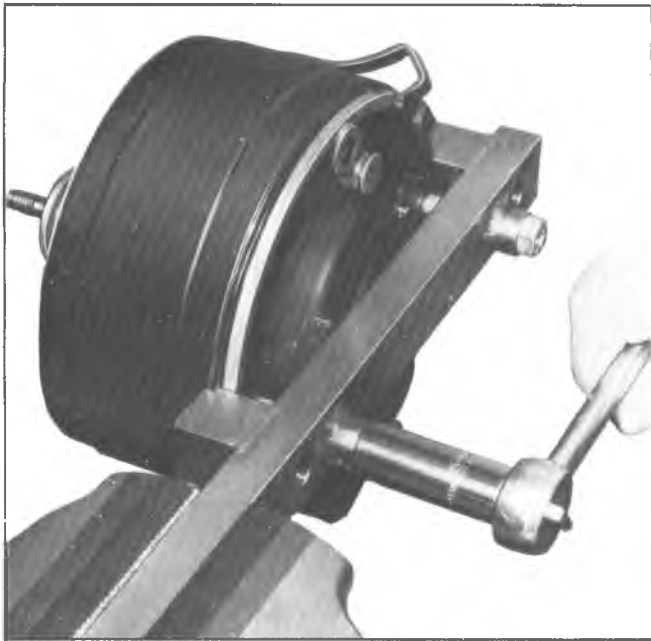

Fig. 92--Removing Shell Assembly
compressor shell, finger tight, both sides (Fig. 92). Check to be sure the step protrusions do not overlap the cylinder but will pass both sides.
- Place compressor shell on cylinder and rotate retaining strap to its original location (Fig. 92).